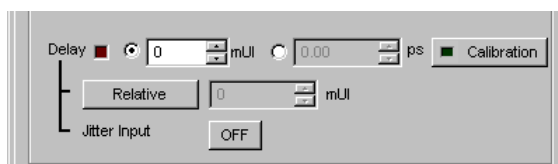

Figure 5.1.7-1 Clock delay setting items
- When executing jitter tolerance test, etc. by inputting jitter-modulated clock, set **Jitter Input** of Delay to **ON** to avoid malfunction of Delay caused by excess jitter modulation. (Refer to Figure 5.1.7-1.) When using the MU181000A/B (with Option 001 Jitter Modulation) or MU181500B, set **Jitter Input** of Delay to **ON**, and then set **Jitter Modulation** of the MU181000A/B or MU181500B to **ON**.